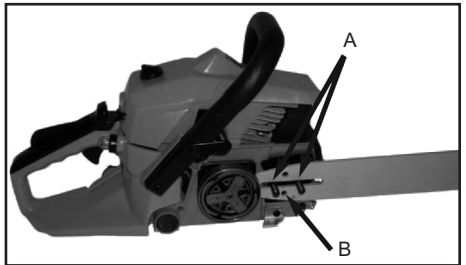

Fig. 3
4. Slip the bar under the edge of the clutch and then over the mounting studs. (Fig.3-A)
Note the position of the tension adjusters hole in the bar (Fig.3-B). This hole will need to be lined up with the tension adjustment pin when the clutch cover is refitted.